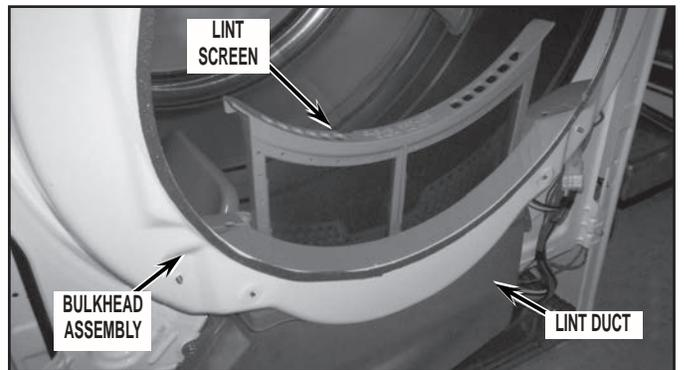

FIGURE 11
14. Remove lint screen from dryer lint duct. See *Figure 11*.